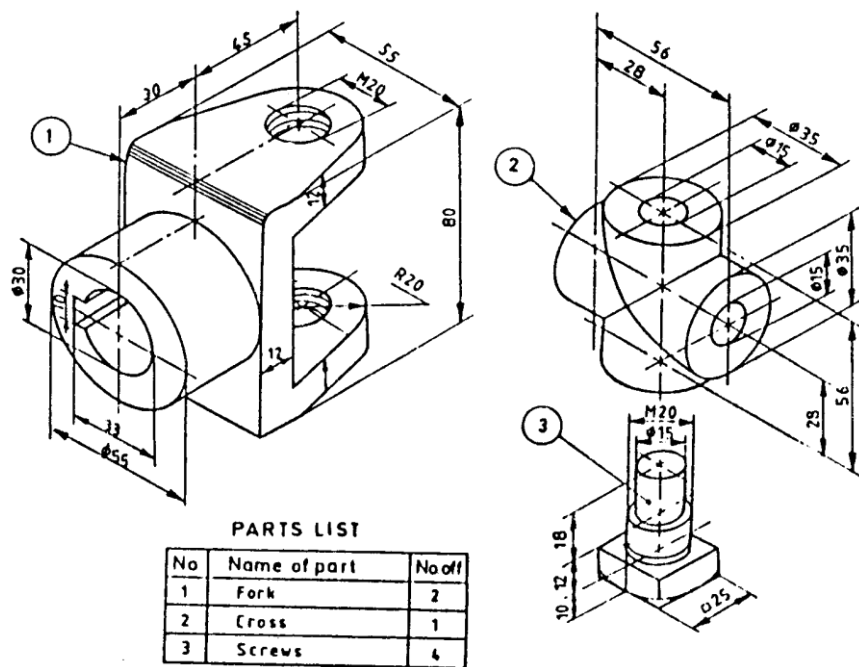

FIGURE T9.2: UNIVERSAL COUPLING
2. 2. FIGURE T9.2 SHOWS THE DETAIL DRAWING OF A UNIVERSAL COUPLING FOR CONNECTING TWO SHAFTS. ASSEMBLE THE PARTS AND DRAW THE SECTIONAL FRONT VIEW AND THE TOP VIEW.